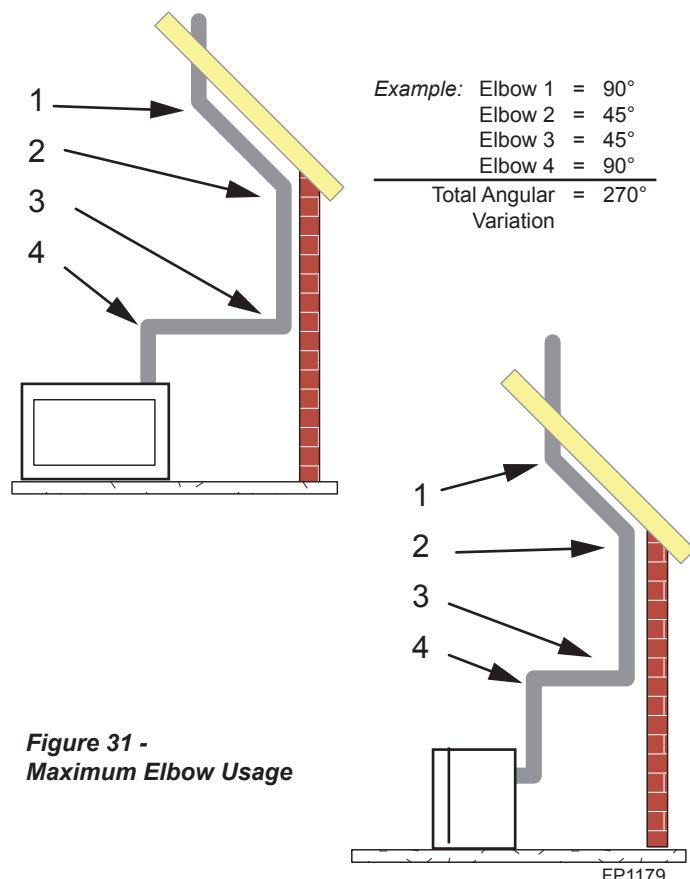

Figure 31 -
- Two sets of 45° elbows offsets may be used within the vertical sections. From 0 to a maximum of 8' (2.5 m) of vent pipe can be used between elbows. *Figure 31*
- The maximum angular variation allowed in the system is 270°. *Figure 31*